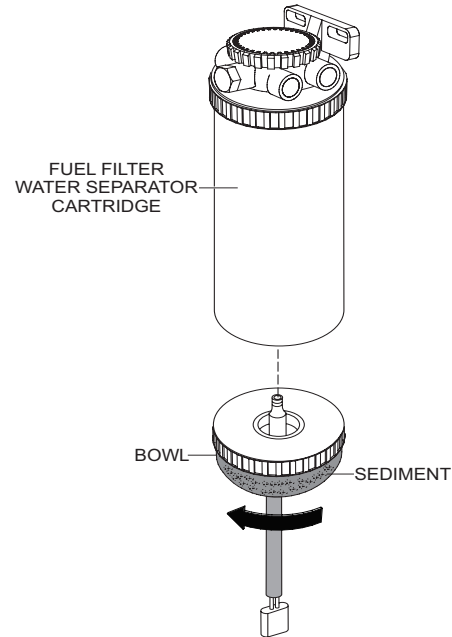

Figure 64. Fuel Water Separator Sediment Bowl
1. Remove the **sediment bowl** (Figure 64) from the **fuel water separator cartridge**.